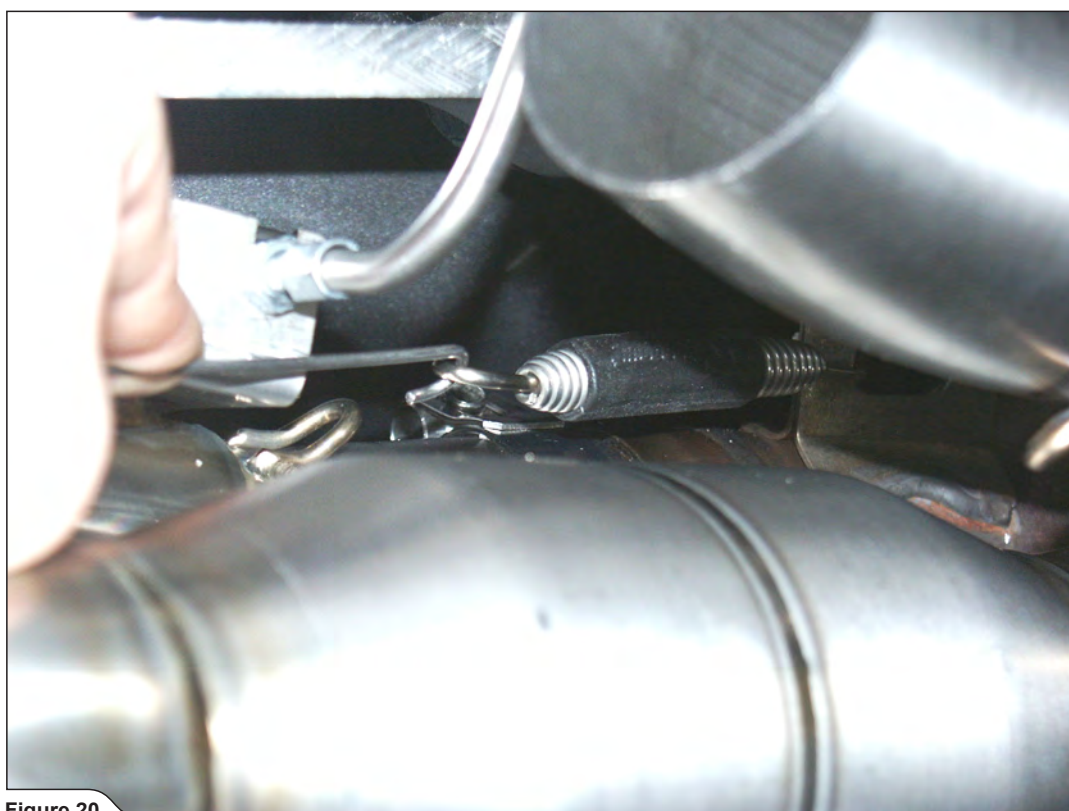

Figure 20
9. Attach the spring and attach the lower part of the cowling in the reverse order from the order in which it was removed (Figure 20, 21).